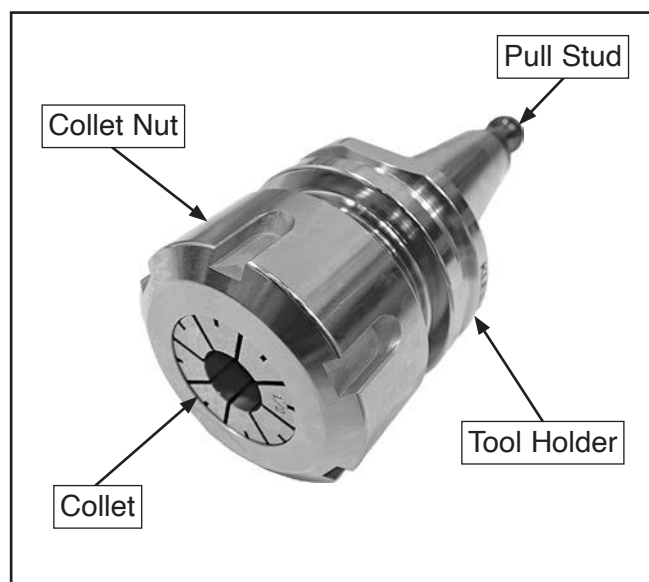

Figure 101. Tool holder components.
1. Loosen and remove collet nut on tool holder, then insert collet (see **Figure 101**).